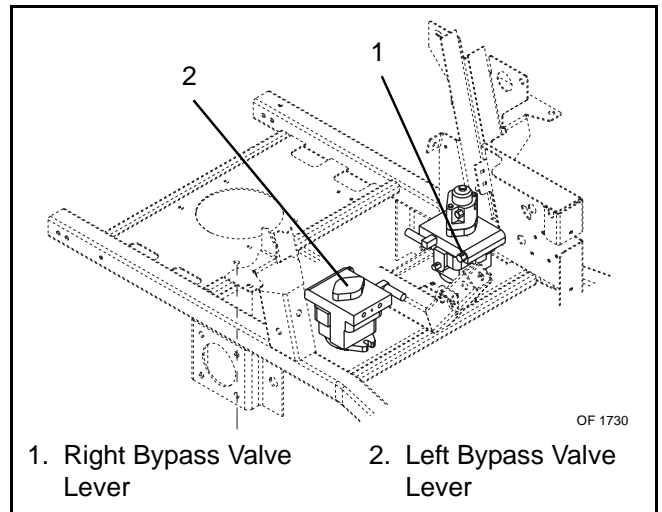

Figure 5
- Levers must be returned to their original position in order to operate the unit (Figure 5).